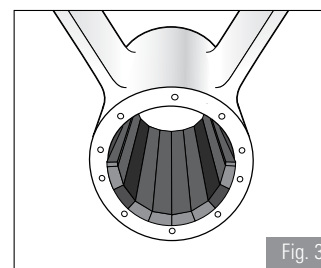
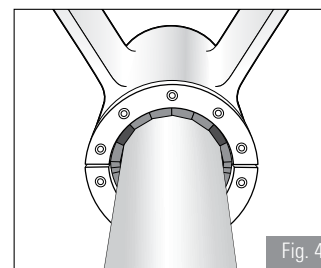

Fig. 3
Fig. 4
4. Insert staves in lower half of housing per drawing starting with the bottom and working up to 9 and 3 o'clock positions (see Fig. 3). Place spacers (dummy shaft) in the bearing and insert staves in upper half of the housing. Insert plastic shims (supplied with bearings) between the rubber locking staves and spacers as needed. This will hold the rubber locking staves against the housing until bearing is secured (see Fig. 4).
10. After all bearings are installed and correct dimensions are confirmed the propeller shaft can be installed (see Figs. 4).